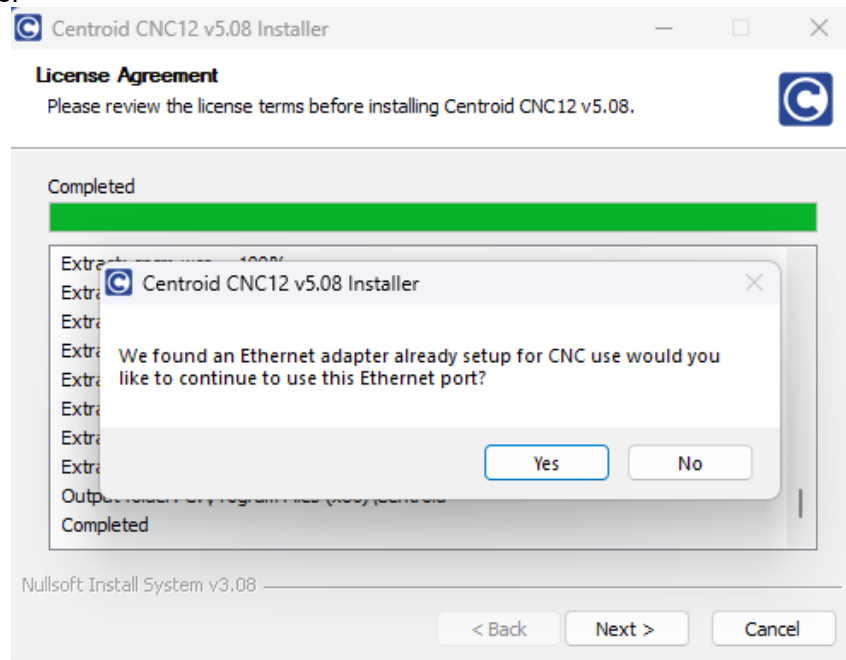

Figure 3.2.8
1. If the Ethernet Adapter has already been set up for CNC use, you will see a screen as shown in Figure 3.2.8. Select “Yes” to continue.